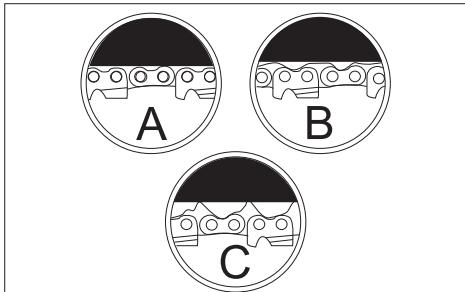

fig. 18
The gear, tire, chain and crankshaft wear out much faster if the chain is excessively sagging or too tight. View fig. 18, which shows the correct tension for the cold chain (A), warm chain (B), and the chain whose tension you need to adjust (C).